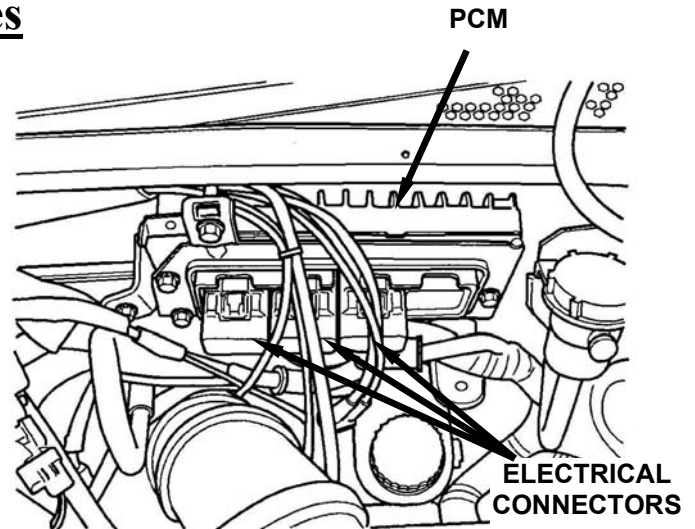

Figure 3
2. Disconnect the four (4) PCM electrical connectors and set the wiring harness aside (Figure 3).
3. Disconnect the two (2) wiring harness clips from the PCM bracket.
4. Remove the four (4) PCM mounting bracket screws and then remove the PCM and mounting bracket assembly (Figure 3).
5. Remove the three (3) PCM bolts, then remove the PCM and discard it.
7. Install the PCM and bracket assembly (Figure 3). Tighten the mounting bolts to 95 in-lbs (10.7 N·m).
8. Connect the four (4) PCM electrical connectors (Figure 3).